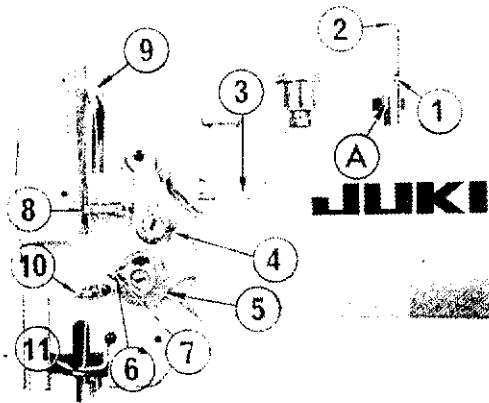

Fig. 10
10. How to thread the machine (Fig. 10, 11)
The pressure of the presser foot is adjusted by the presser foot adjusting screw (Fig. 10 ㉗) atop the arm. To increase the pressure, turn this screw to right and to weaken the pressure, turn it to left.